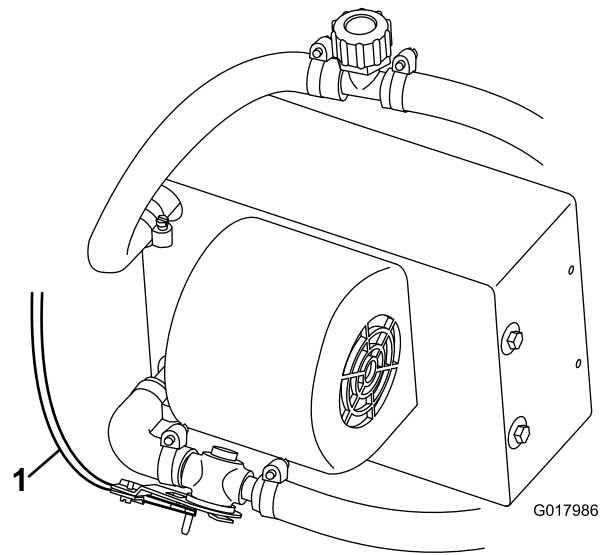

Figure 18
- Route and connect the heater control cable to the heater valve (Figure 18).